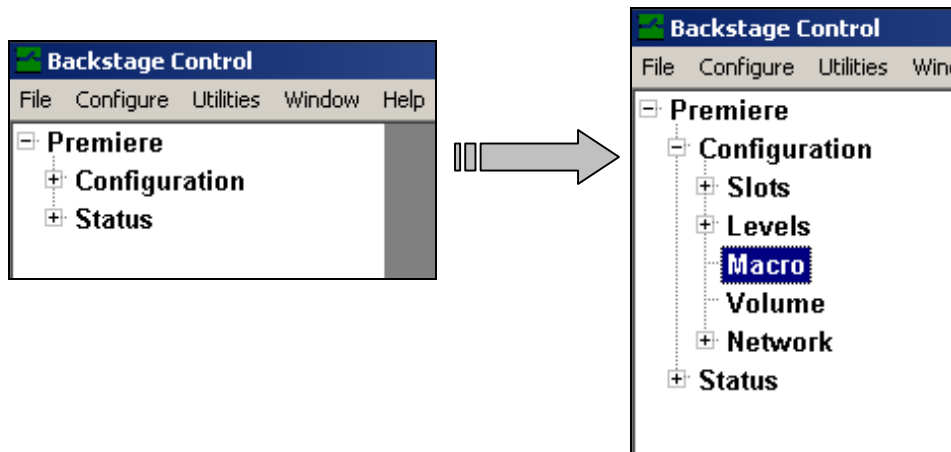

FIGURE 85: Accessing the Macro Directory
- 6) In the tree window, access the **Macro** directory by expanding the **Premiere** and **Configuration** root directories by clicking on the x-box (☒) adjacent to each directory (see Figure 85).